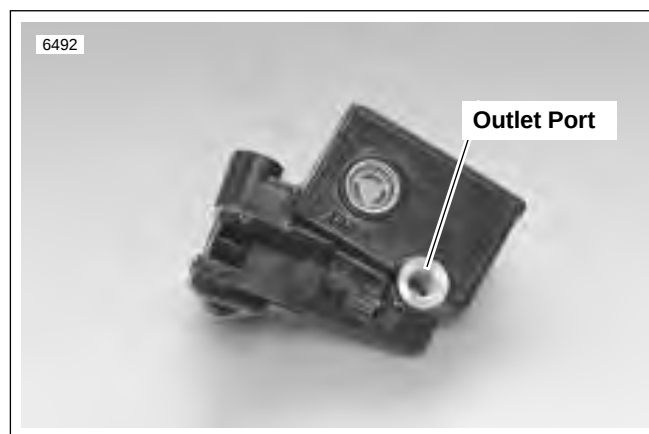

Figure 2-23. Master Cylinder Body
4. See Figure 2-23. Inspect outlet port that mates with brake line fitting. As a critical sealing surface, replace housing if any scratches, dents or other damage is noted.
1. See Figure 2-23. Check piston assembly components.
- a. Small end of spring (1) sits behind primary cup (2). Large side of primary cup faces spring.
- b. Secondary cup (3) sits within ridge at middle of piston (4).
2. Insert piston assembly, spring first, into master cylinder. Secure with a **new** snap ring (6).
3. Install ridge on boot (5) into groove on piston (4).